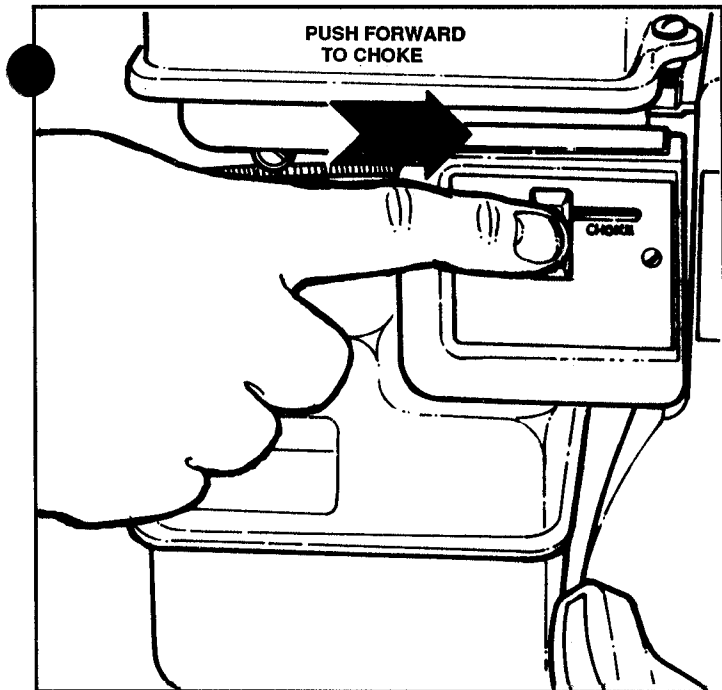

FIGURE 5
**STEP 2:** On cold starts, move the CHOKE CONTROL on the engine forward into CHOKE position. See Figure 5.